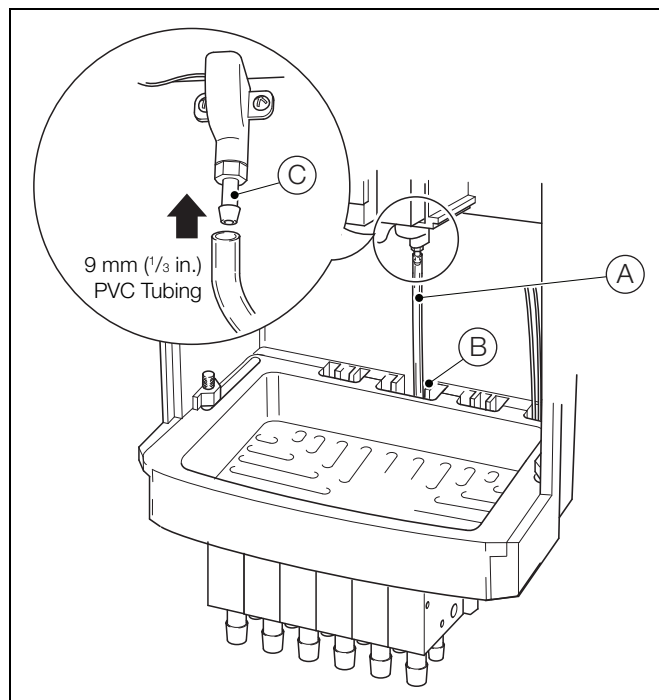

Fig. 4.13 Connecting the Contaminated Drain Tube
If an alternative contaminated drain tube is used, refer to Fig. 4.13 and route contaminated drain tube (A) upwards through centre channel (B) and connect it to contaminated drain collector (C).